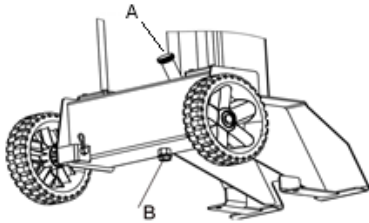

Fig.16
2. Remove oil tank cap (A) (Fig. 16).
4. Unscrew the drain plug (B) (Fig. 16) located under the base of the splitter for the oil to flow.
5. When the oil has drained completely, Insert the seal and the drain plug in place (B).